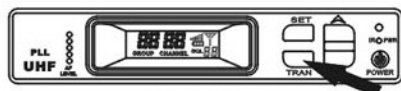

FIGURE 27
3. Press the TRAN button of receiver, the IR/PWR light flash, indicate the transmitter and receiver enter adjusting code.(Figure 27).